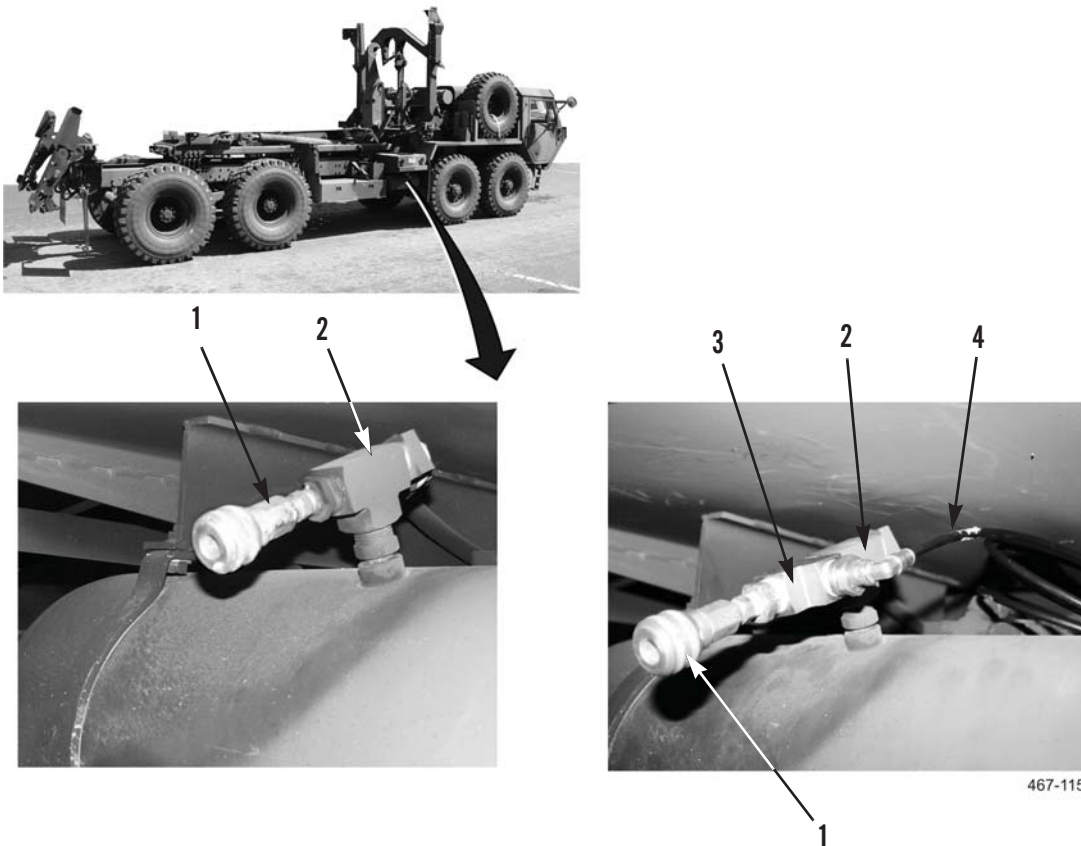

Figure 15. HEMTT M1120 Pneumatic Fitting and Hose Installation.
44. Remove quick disconnect air fitting (Figure 15, Item 1) from air tank fitting (Figure 15, Item 2).
45. Apply thread tape on pneumatic T-fitting (Figure 15, Item 3) and install pneumatic T-fitting on air tank fitting (Figure 15, Item 2).
46. Apply thread tape on quick disconnect air fitting (Figure 15, Item 1) and install quick disconnect air fitting on pneumatic T-fitting (Figure 15, Item 2).
47. Cut air hose (Figure 15, Item 4) to fit, and install on pneumatic fitting (Figure 15, Item 3).